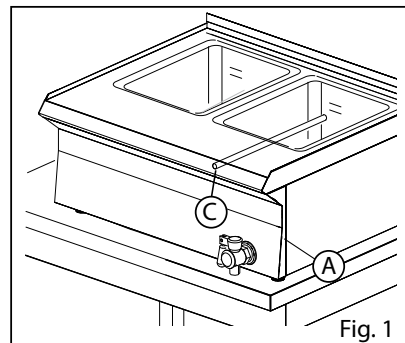

Fig. 1
- Close the cut-off cock upstream the machine (Fig. 1);
- Close the cut-off cock upstream the machine (Fig. 1).
- Replace the pilot injector (Fig. 1) with the one corresponding to the selected gas according to what reported in the reference Table (see Gas reference Table).
- Replace the injector (Fig. 1) with the one corresponding to the selected gas according to what reported in the reference Table (see Gas reference Table).
1. Disassemble the panel (Fig. 1/A)
- Remove the valve bulb from the tank (Fig. 1/C)
- Take the bulb out of the tank (Fig. 1/C + 5/A)